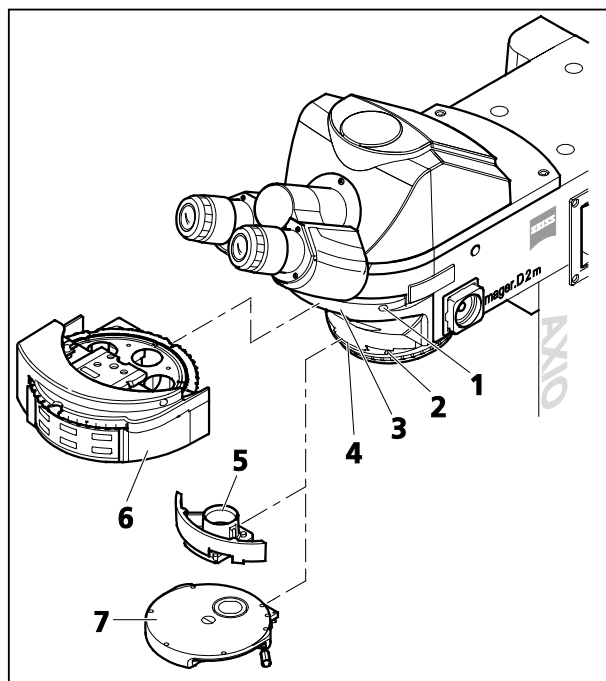

Fig. 18 Inserting reflector turret, compensator mount or modulator turret
- Loosen the clamping screw (Fig. 18/1). Pull out the reflector turret (Fig. 18/6) or the cover part, using the grip recess (condition on delivery).
- Insert the compensator mount (Fig. 18/5) or the 4-position modulator turret (Fig. 18/7) manual or motorized) fully into guide (Fig. 18/4) on the top part of the stand. Tighten clamping screw (Fig. 18/2).
- Attach reflector turret (Fig. 18/6) to the guide (Fig. 18/3) in the top part of the stand and push it in until it (audibly) snaps in.
- Tighten clamping screw (Fig. 18/1).